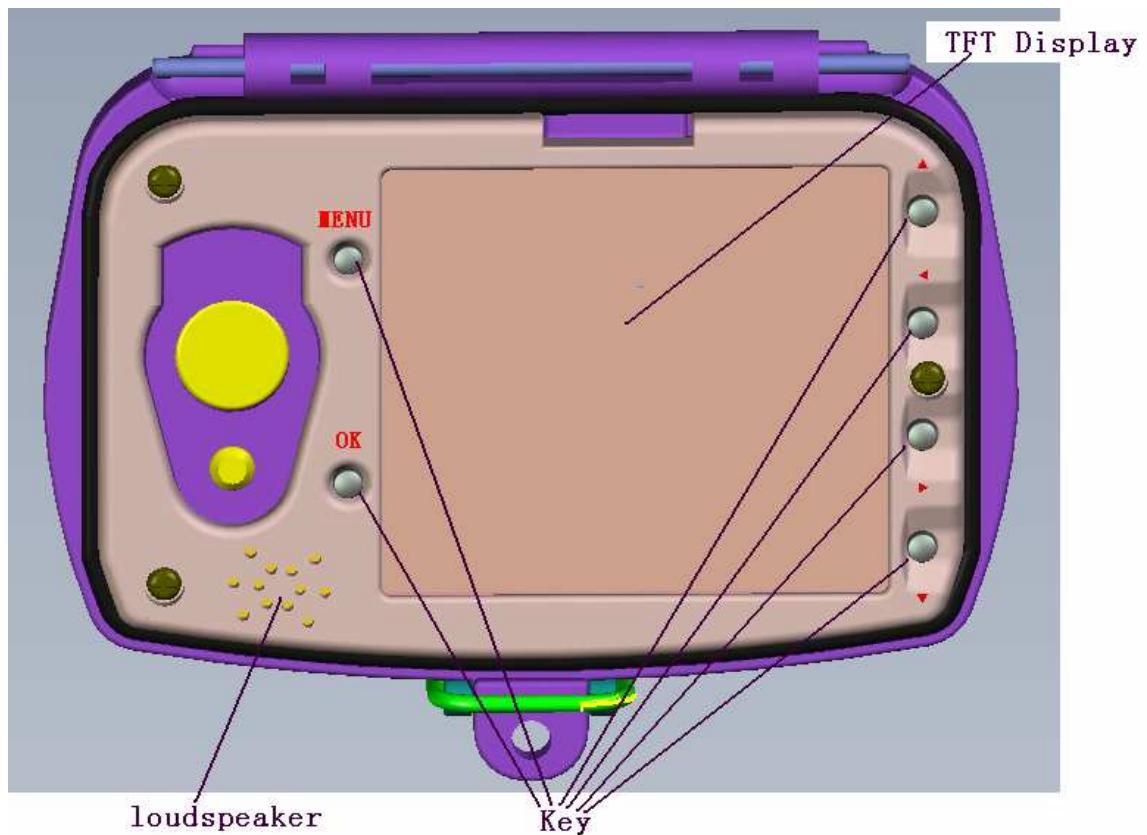

Figure 1.3: Back View of Ltl-6210M
- Figure 1.3 shows the back view of the camera (Part # Ltl-6210M) and front view of LTL-MM2